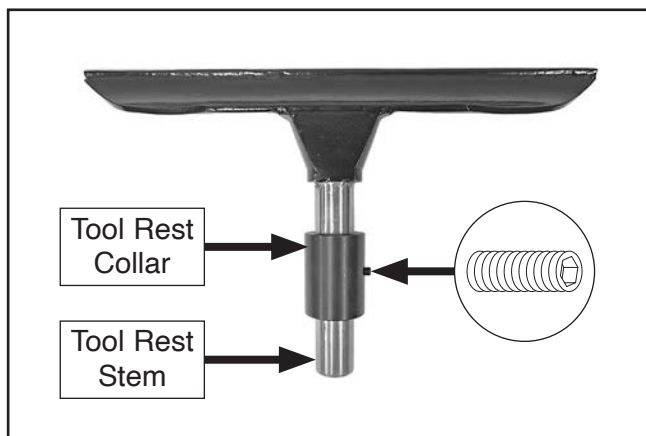

Figure 54. Tool rest collar installed on stem.
2. Loosen set screw on tool rest collar and install over tool rest stem (see **Figure 54**).